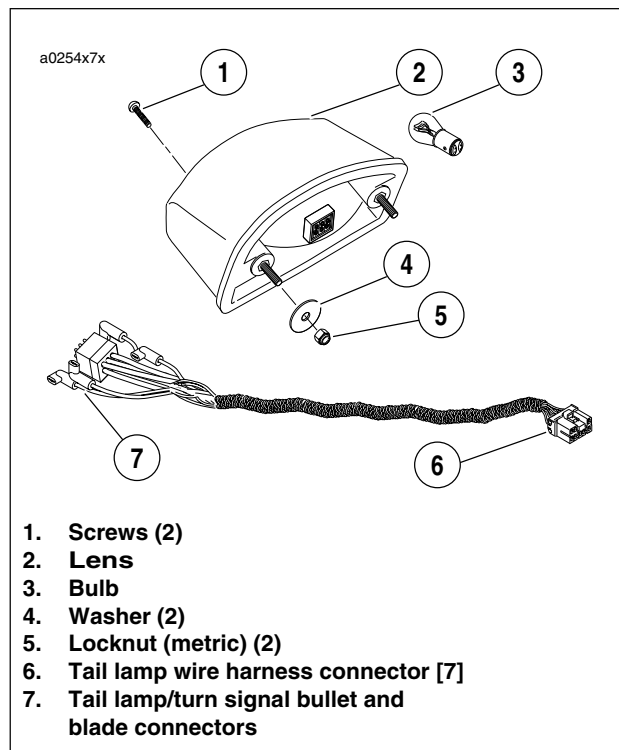

Figure 7-65. Tail Lamp
1. See Figure 7-65. Remove two screws and lens.
1. See Figure 7-65. Disconnect the tail lamp connector from rear of tail lamp under tail section.
1. See Figure 7-65. Attach tail lamp to tail section with two washers and locknuts (metric). Tighten locknuts to 23-28 **in-lbs** (2.6-3.2 Nm).